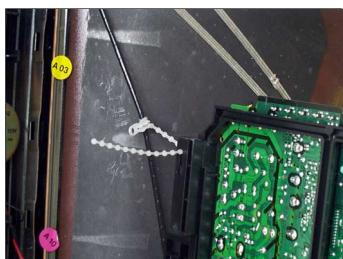

Fig.5.
1. Remove the bead clamper from the mains lead and attach to the degauss coil, shown in **Fig.5.**
6. Clip the chassis frame onto the bead clamper, on the degauss coil, as shown in **Fig.5.**